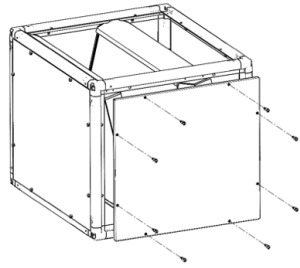

Fig. 14 Access panel removal and replacement. (3-ton model shown.)
1. Remove access panel. See Fig. 14.